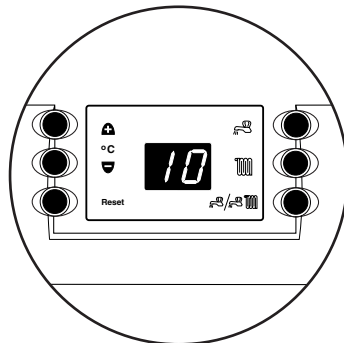

Fig. 36
b) Press the “+” Temperature Control Button twice so that the display shows “10” (Fig. 36) with the “0” indicating that the boiler is set for a maximum Central Heating output of 100,000 Btu/hr. 1 minute after the parameter has been set the display will revert to normal operation.